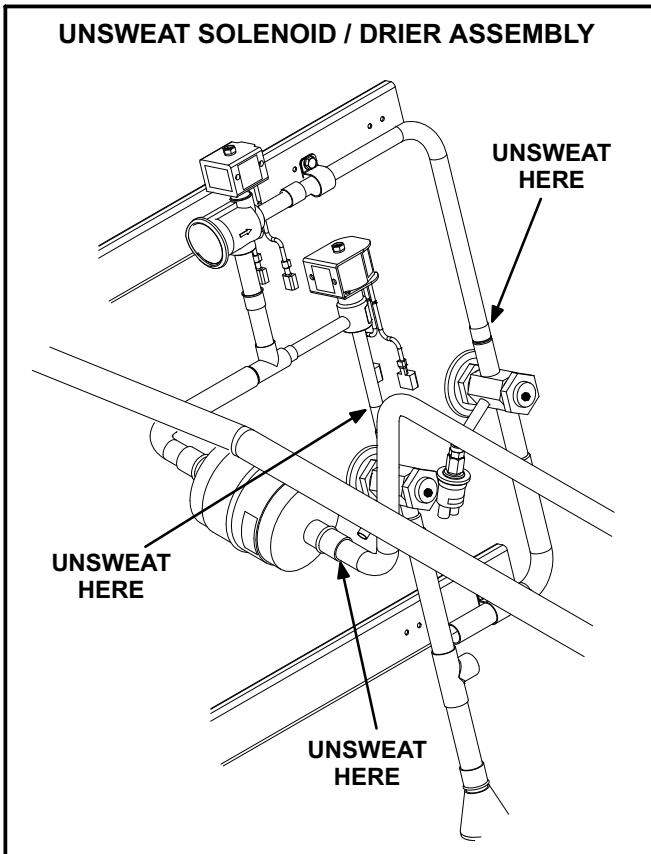

FIGURE 4
- 5- Unsweat plumbing in three locations shown in figure 4. Remove existing solenoid / drier assembly.
- 1- Fit replacement solenoid / drier assembly into unit and place wet rags on both solenoids and the filter / drier. Braze assembly in three places assembly was previously unsweated. See figure 4.